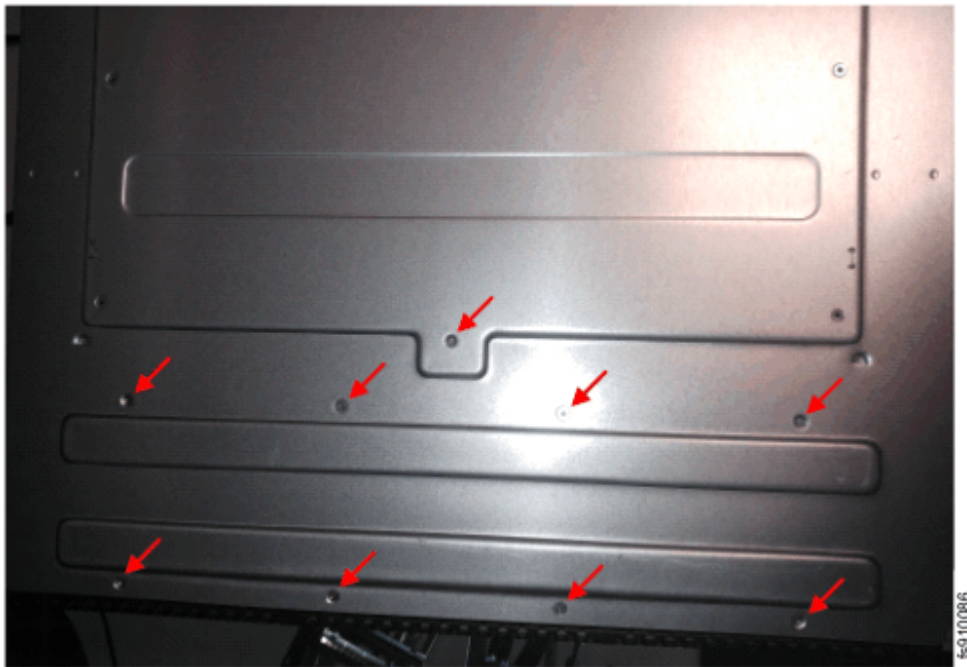

Figure 103. Location of the screws on the underside of the control enclosure
13. Remove the nine screws from under the front of the enclosure (see Figure 103 on page 150).